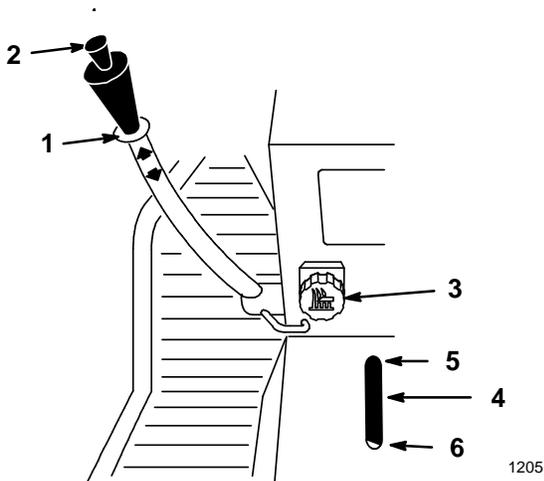

Figure 16
The attachment lift lever (on some models) (Fig. 16) is used to raise and lower various attachments.
The Dial-A-Height control (Fig. 16) is used to limit the downward travel of the attachment. The Dial-A-Height knob is rotated to change the location of this stop, up or down.
1. Raise the attachment lift lever: Refer to Raising Attachments. In the raised, position the Dial-A-Height knob (Fig. 16) can be rotated to change the stop location. Turn clockwise to raise and counterclockwise to lower the height of the attachment.
2. The Dial-A-Height indicator (Fig. 16) will show the change, high to low, in attachment lift height as adjustment is made.